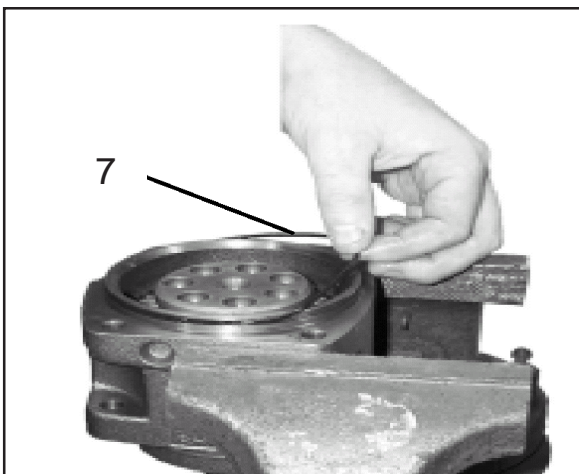

Figure 7
6. Remove Bearing Housing Sealing O-Ring. There is an O-Ring (item 7) that is used to seal barrel housing assembly (item 1) to bearing housing (item 6). Remove this O-ring (See Figure 7) This will leave Shaft Assembly (item 14) still in Bearing housing (item 6)